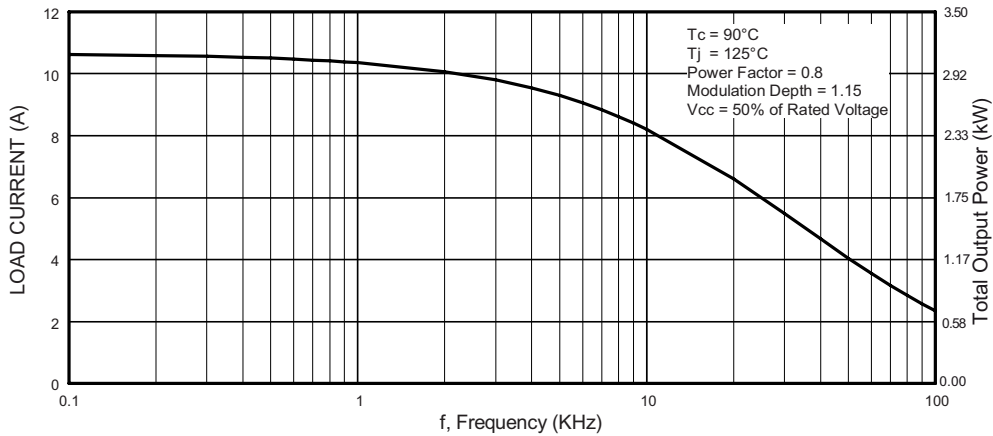

Fig. 1 - Typical Load Current vs. Frequency
Modulation depth (see fig. 1)	115 %
- Short circuit rated ultrafast: Optimized for high speed over 5.0 kHz (see fig. 1 for current vs. frequency curve), and short circuit rated to 10 μs at 125 °C, $V_{GE} = 15\text{ V}$